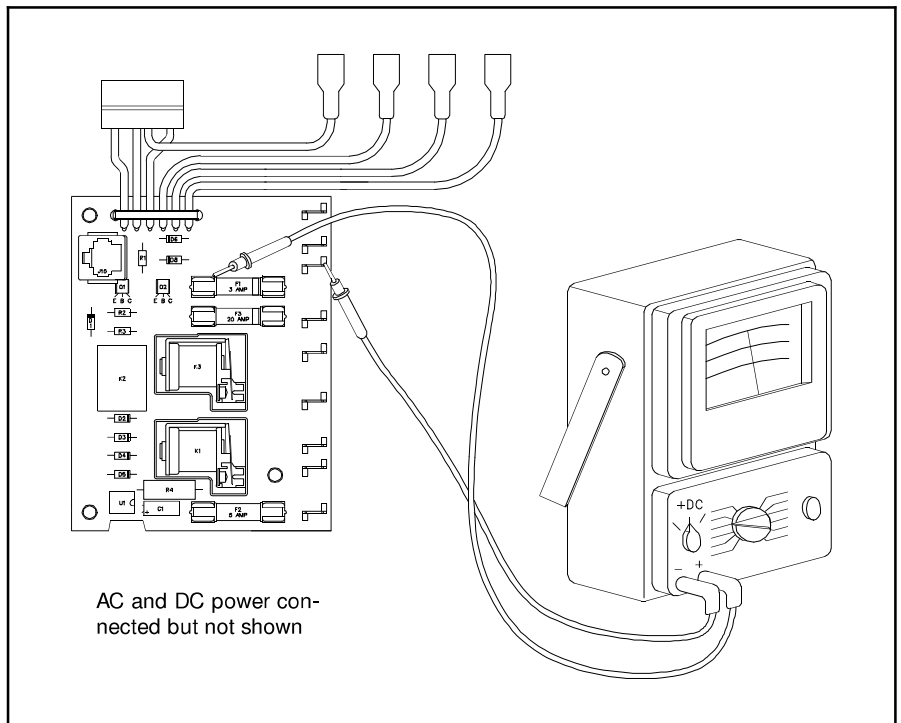

Figure 11.23 3 Amp Fuse Check
- With the volt-ohm-meter set to measure + 12 volts DC, check for 12 volts through the fuse as shown by Figure 11.23. If you do not have 12 volts, replace the 3 amp fuse.